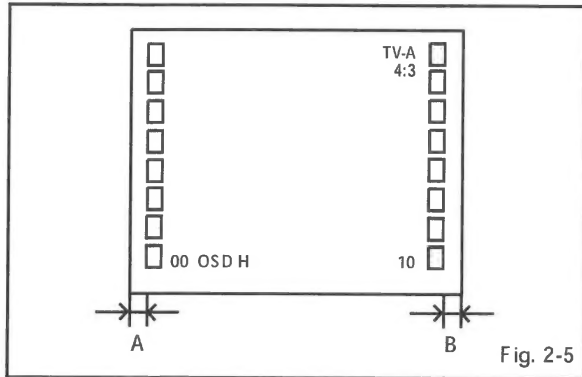

Fig. 2-5
4. Press the VOL. UP/DOWN button on the remote control until the difference of A and B becomes minimum. (Refer to Fig. 2-5)